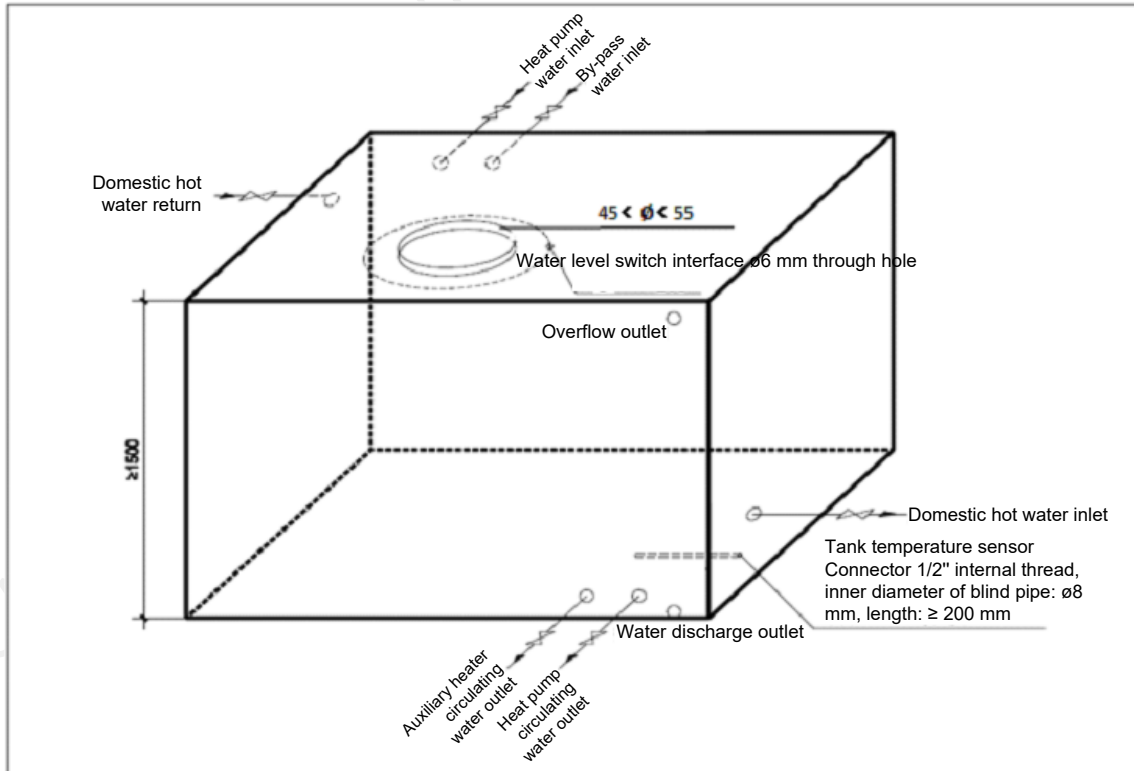

Figure 5.8 Schematic diagram of water tank connector
- The water tank shall be insulated. See connector requirements in Figure 5.8. The diameter of the opening for installing the water level switch φ must be larger than 45 mm and smaller than 55 mm. If the opening is too large, the switch cannot be fixed; if the opening is too small, the switch cannot be laid in the water tank.